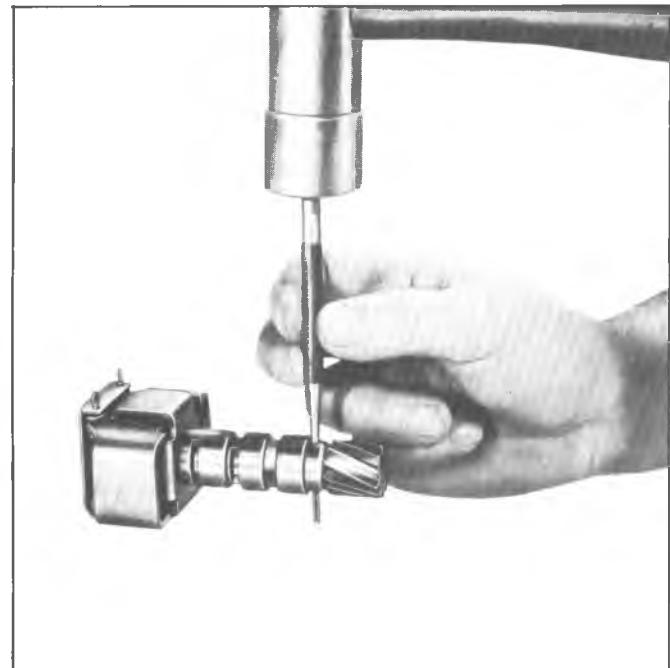

Fig. 7A-60C--Removing Governor Gear Retaining Pin
1. Drive out governor gear retaining split pin using small punch (Fig. 7A-60C).